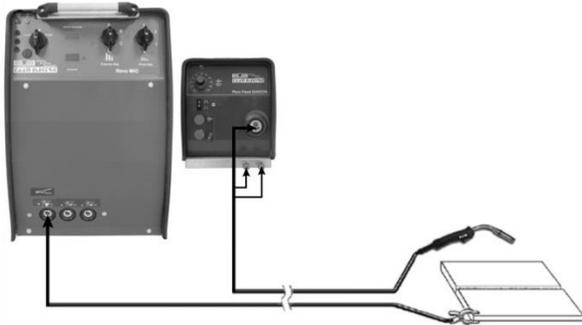

Figure.2
- connect the earth cable to the rapid coupling marked by a - (negative) symbol and then the relevant earth clamps to the piece being welded or to its support in an area free from rust, paint and grease (Fig. 2).